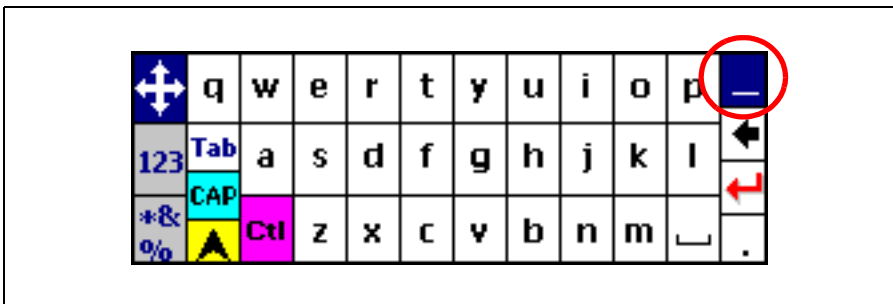

Figure 3.11 Trimble keypad keyboard
1. Tap once on the top right blue key, identified with a circle in the figure. See figure 3.11